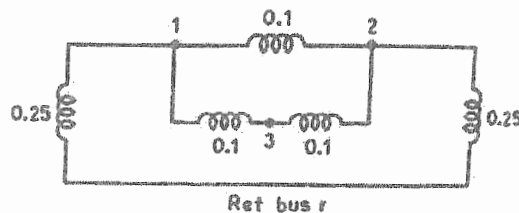

Fig. 1
- (b) For the 3-bus network shown in Fig. 1 build Z_{bus} .